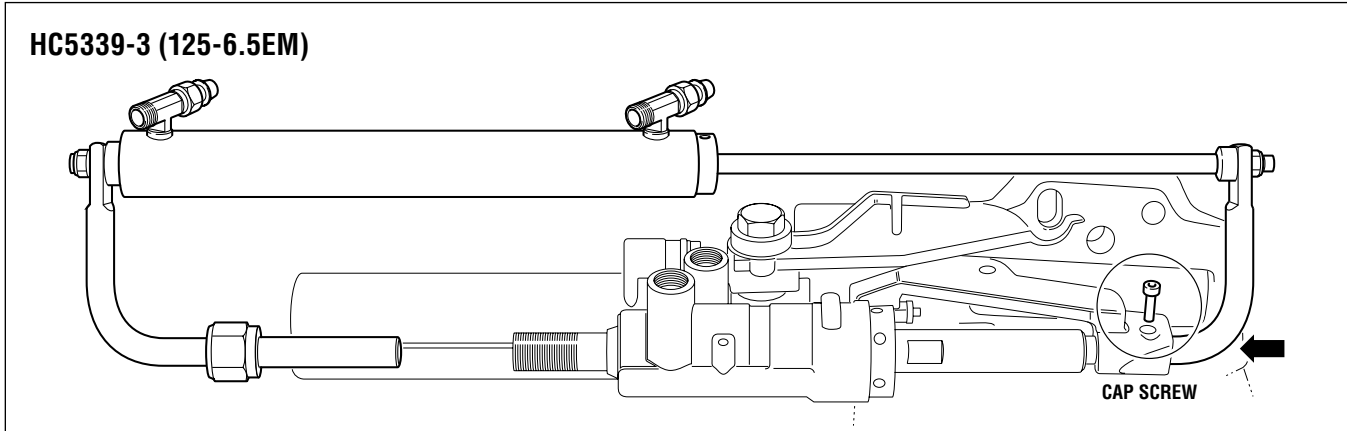

Figure 16.
- 2** Insert the long rod of the HC5339-3 cylinder into the clevis bracket until the through hole in the rod is aligned with the hole in the clevis bracket. Refer to figure 16.